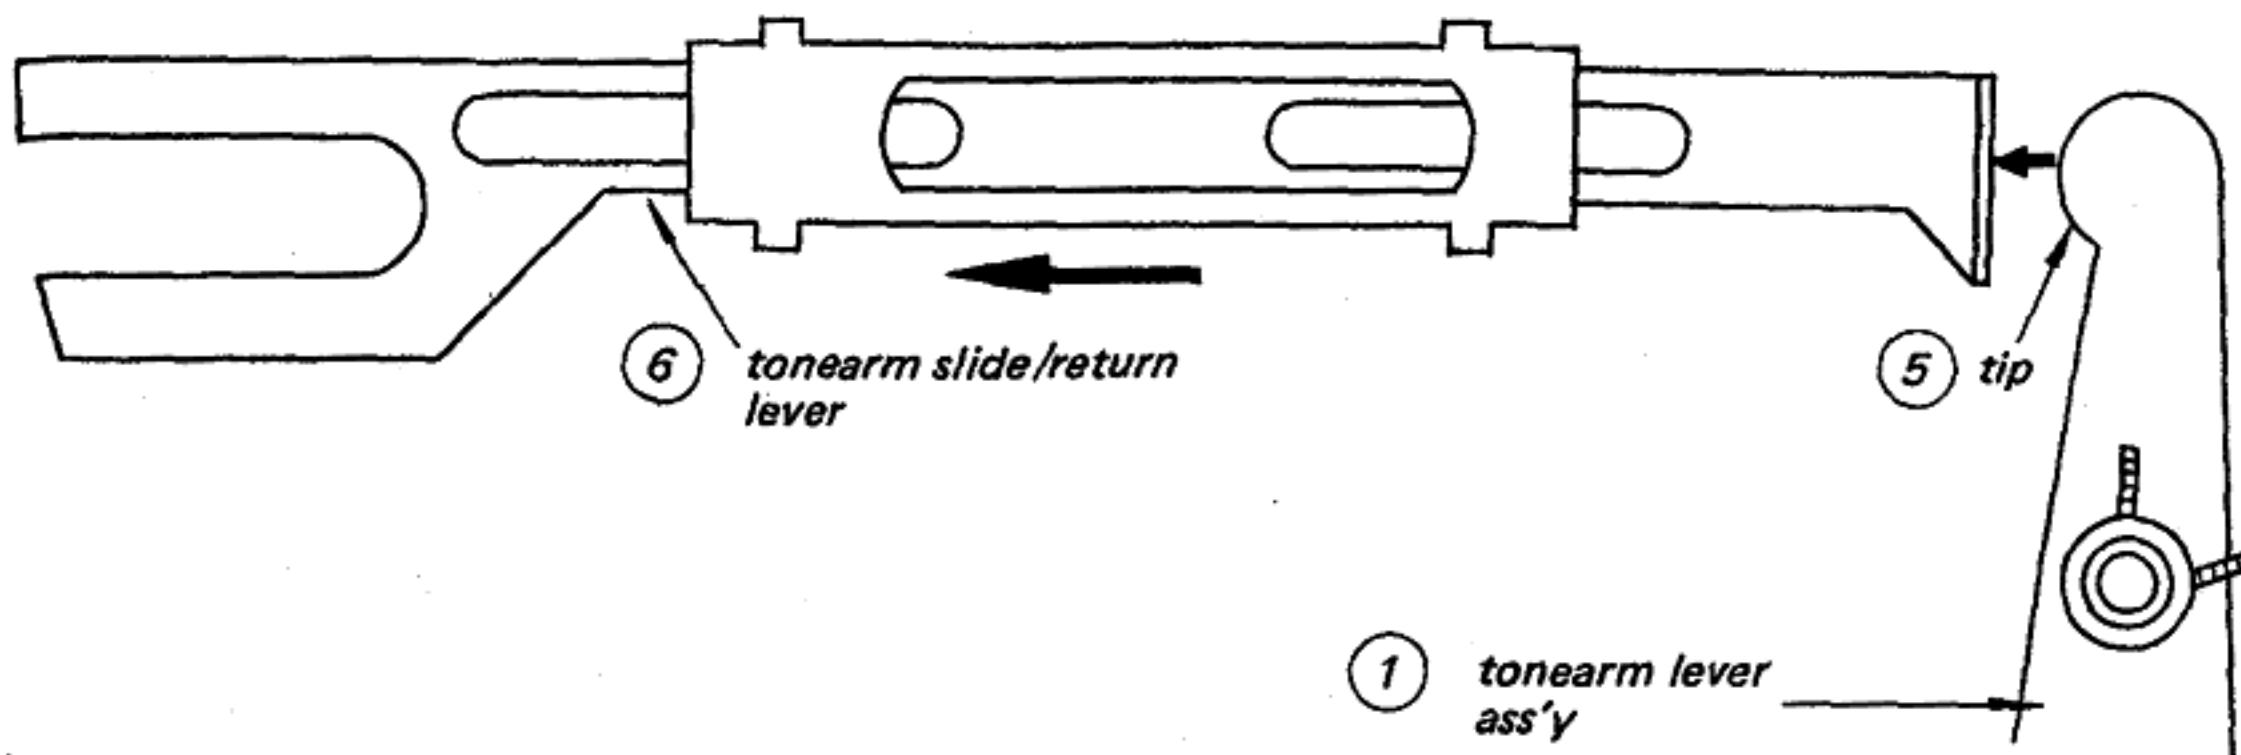
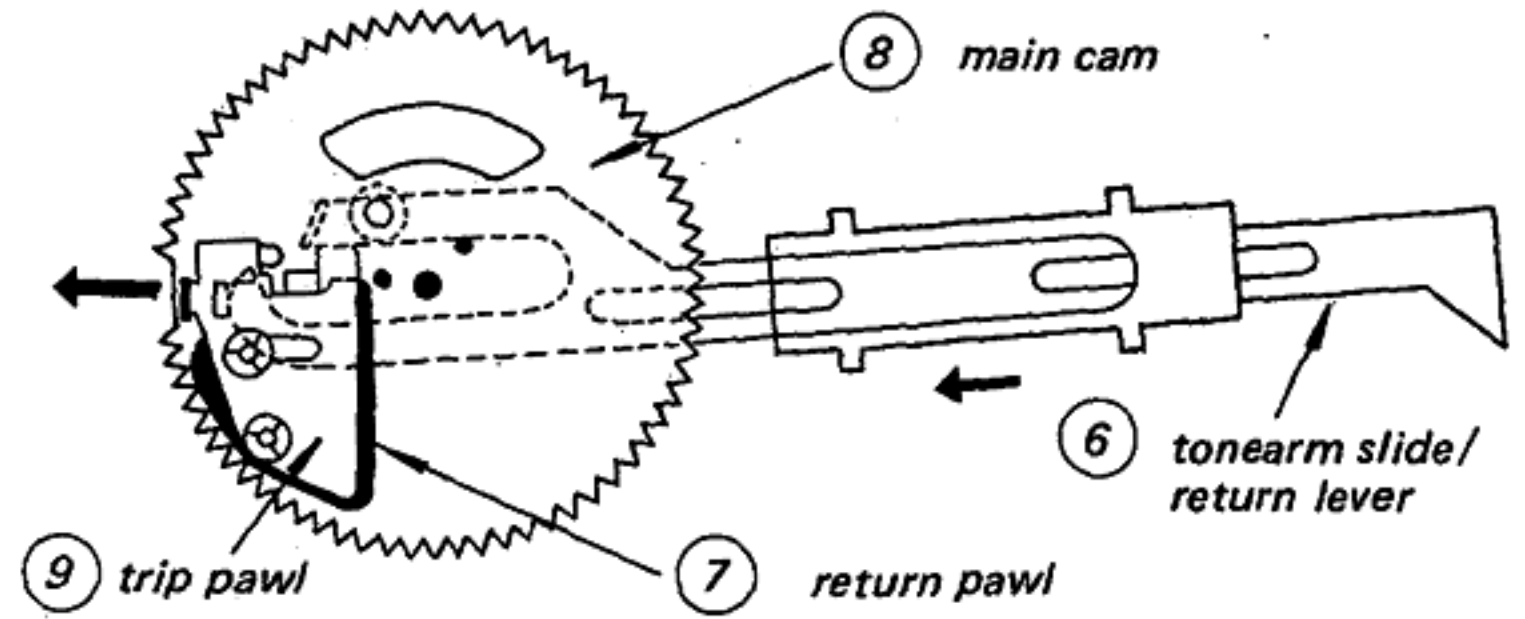
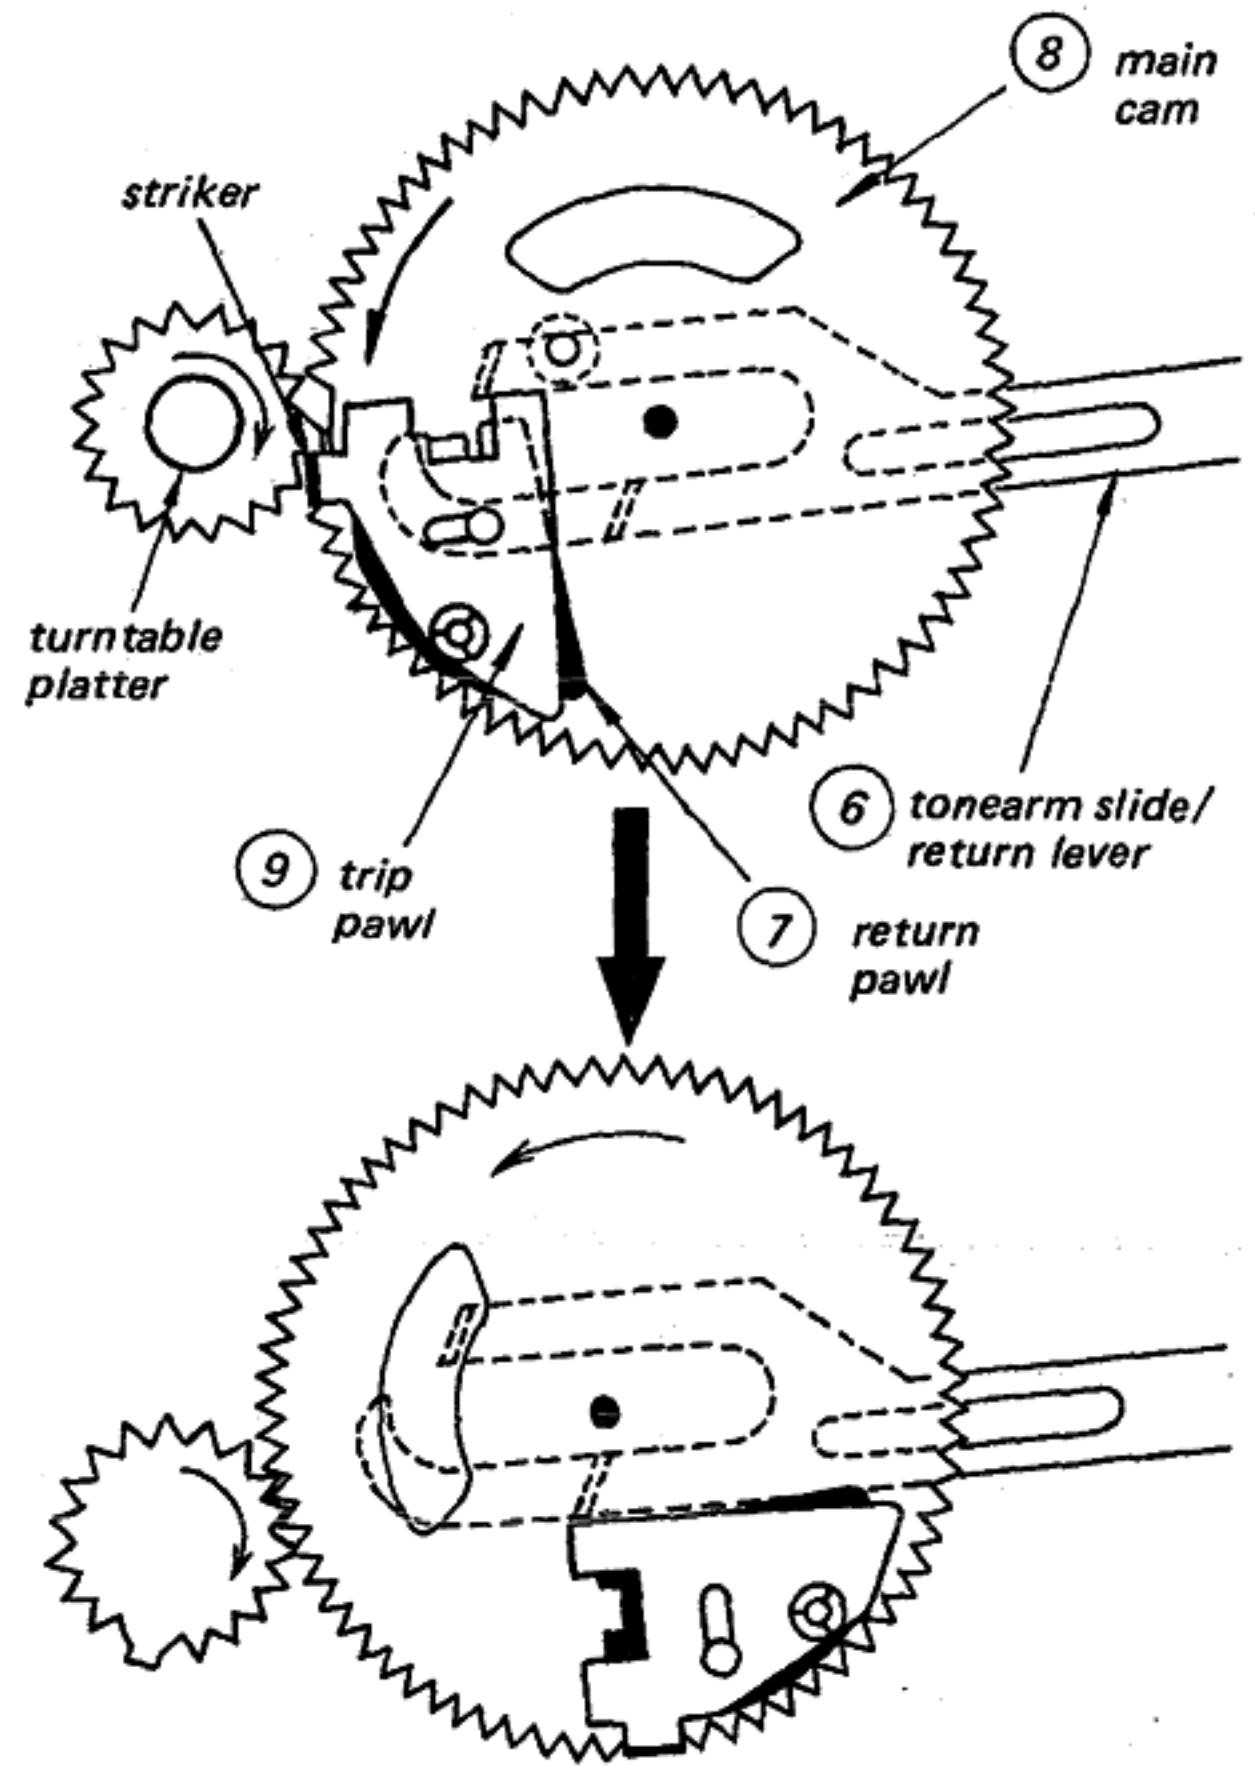

Fig. 1-2. Tonearm slide/return lever movement
Fig. 1-3. Return pawl movement
Fig. 1-4. Main cam movement
When the stylus approaches the lead-out groove of record, the tip (5) of the tonearm lever ass'y (1) bears against the tonearm slide/return lever (6) and slides it toward the turntable center as shown in Fig. 1-2. When the stylus enters the first groove, the tonearm slide/return lever (6) pushes the return pawl (7) on the main cam (8) toward the turntable center along with the trip pawl (9) which is simply mounted on the return pawl (7). The trip pawl is moved by means of friction between the return pawl and the trip pawl as shown in Fig. 1-3. The trip pawl (9) enters path of the revolving-turntable shaft's tooth, when the stylus enters the eccentric lead-out groove as shown in Fig. 1-4.